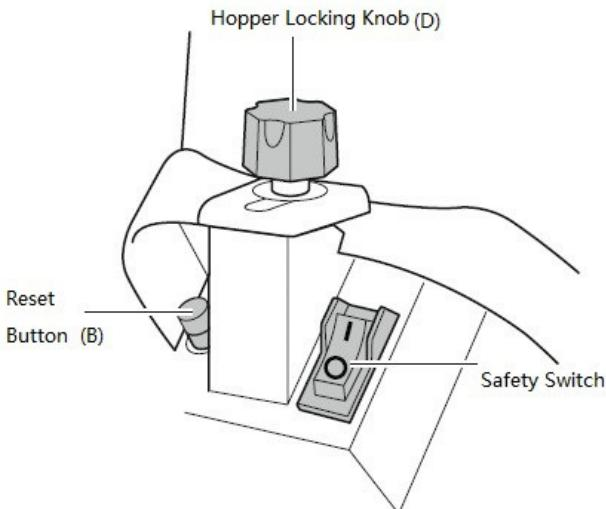
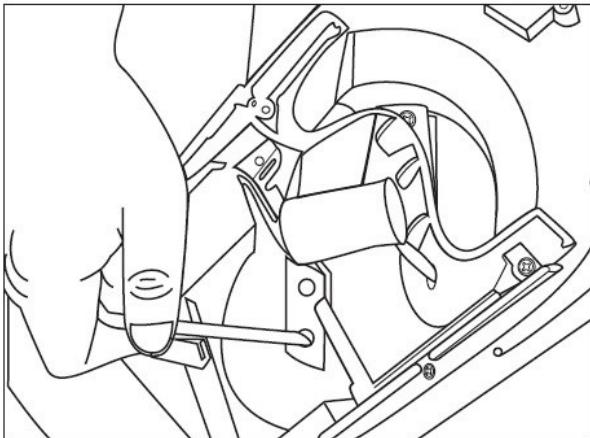

Fig.7
Fig.8
1. Cleaning garden shredder: (See Fig.7)
- Unscrew the hopper locking knob (D) counter clockwise and open the hopper.
- The garden shredder has two blades that are attached to a rotary plate with two screws, (See Fig. 8). Before any maintenance or cleaning is done on the blades, always turn the switch off and disconnect the plug from the outlet.
7. Cutting blade replacement. (Fig. 7 & 8)